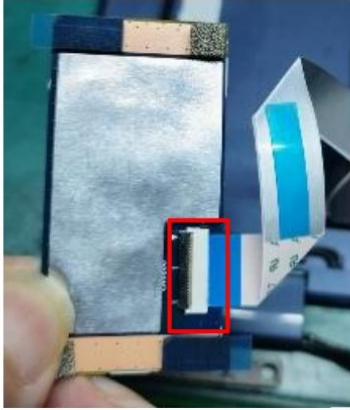

Figure 1
1. Disassemble the PMIC/B, open the CNTR, and remove the PMIC/B (Figures 1 and 2)